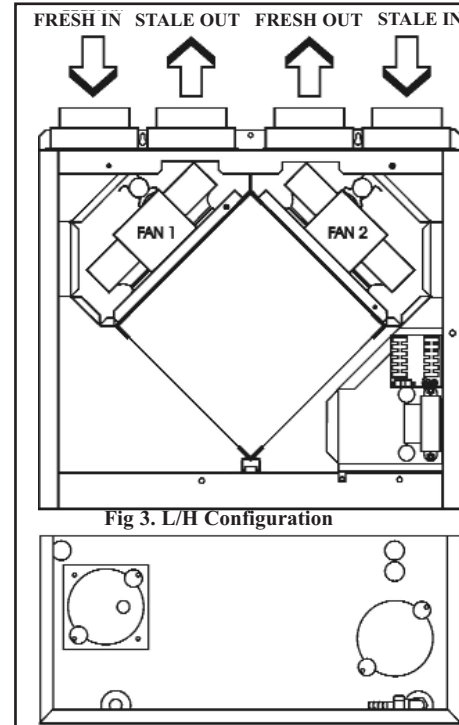

Fig 3. L/H Configuration
2.6.2 With reference to Figs. 3 & 4 decide whether the unit is to be installed in the right or left handed configuration. If the handing of the unit is to be changed, proceed as follows:
3.1 Four 100/125mm nominal diameter spigots are provided for connection of the ducting (see para. 2.5). These must be connected to the supply and exhaust ducts according to left or right hand configuration (refer to Figs 3 & 4).